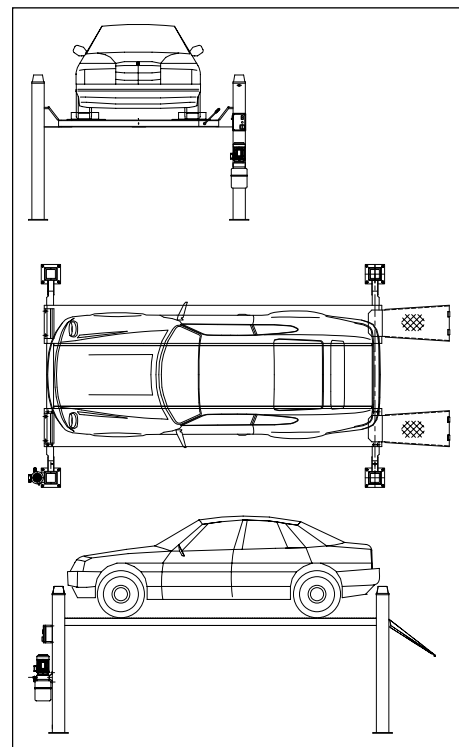

Fig. 16
- Make sure the vehicle is positioned correctly (*Fig.16*);